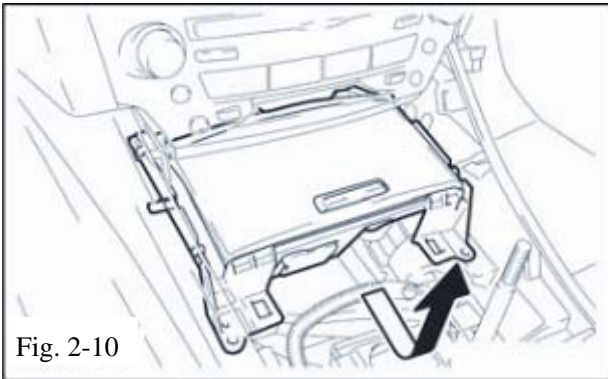

Fig. 2-10
- (2) By hand pull upward & remove box. (Fig. 2-10)
- (3) Disconnect any connectors.